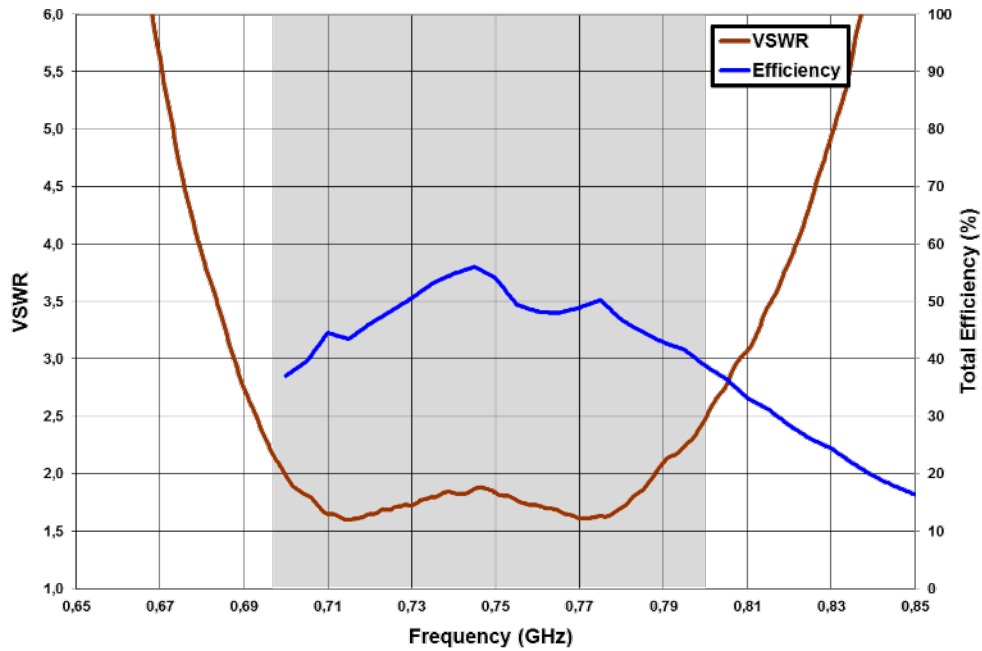

Figure 3 – VSWR and Total Efficiency for Evaluation Board with UFL cables. Part Number: EB_NN02-250-UFL1R-700.
- The efficiency measures (Figure 3 and Figure 4) are shown from 700 MHz due to the minimum frequency specifications of the Satimo STARGATE 32 anechoic chamber.